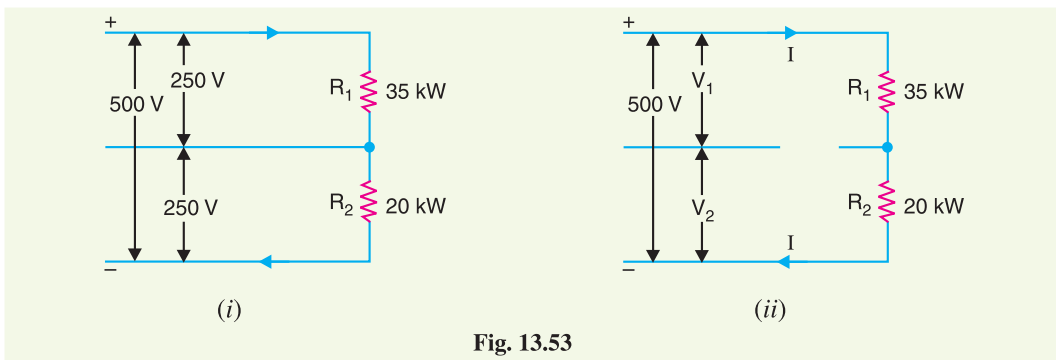

Fig. 13.53
**Solution.** Fig. 13.53 (i) shows the arrangement before the disconnection of the middle wire. The voltages on the two sides of the middle wire are equal i.e. 250 V. Let  $R_1$  be the resistance of load on the +ve side and  $R_2$  be the resistance of load on the negative side.
When there is a break in the middle wire, two resistances  $R_1$  and  $R_2$  are put in series across 500 V as shown in Fig. 13.53 (ii).